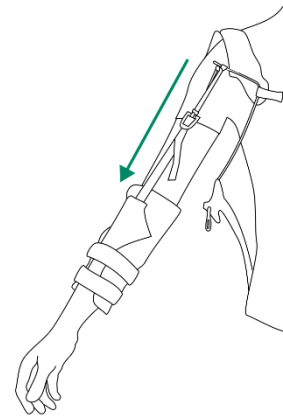

Figure 15
4. Take off the Mbrace (Fig. 15).